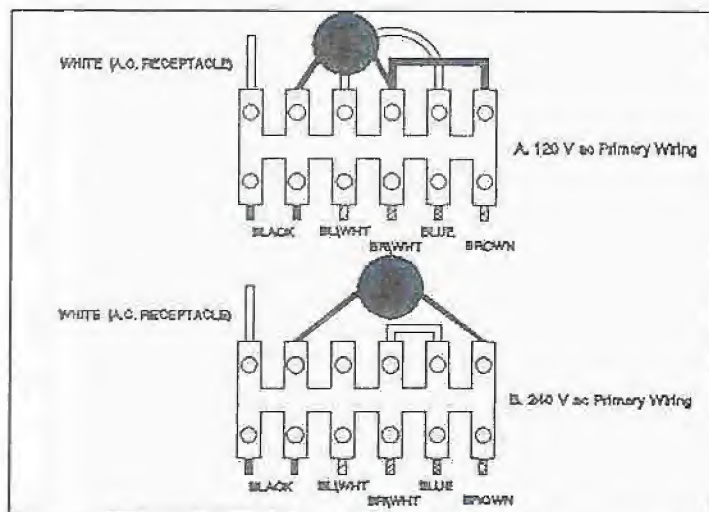

Figure 2 Primary wiring Configuration for 120 V ac and 220 V ac
3. Locate terminal block TB1 located behind the AC main power switch. Reconnect the leads as shown in Figure 2.